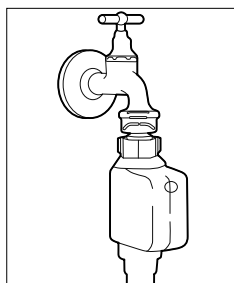

Fig. 5
- ▶ Connect the water supply hose to the connection for the water supply (13). Screw the hose connection hand tight.
- ▶ Connect the end of the hose with AquaStop to a cold water tap with a 3/4" thread (see **Fig. 5**). You can also connect the supply hose to a hot water tap if the water temperature does not exceed 60°C.